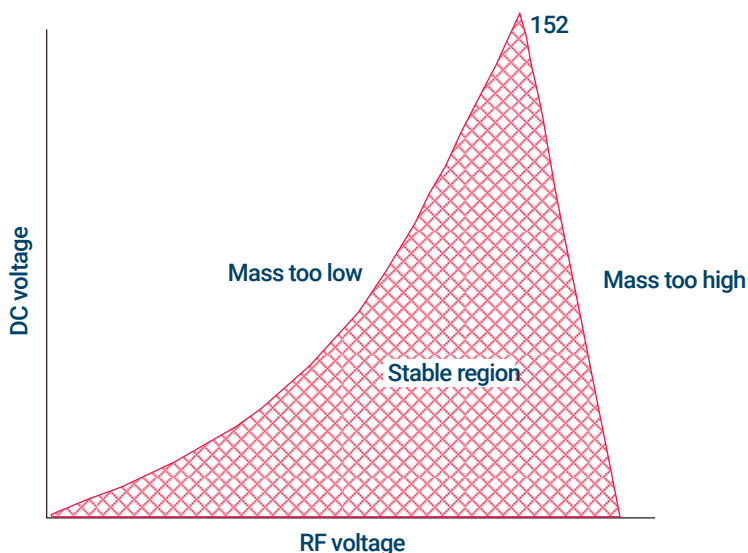

Figure 9. Mathieu Stability Diagram for a single ion
**Figure 9** shows a plot of increasing opposite polarity DC voltage and 180 degree out of phase RF voltage applied to the adjacent hyperbolic surfaces of a quadrupole mass filter. This plot is known as a Mathieu Stability Diagram. The shaded area represents a stable region that allows the 152  $m/z$  ion to pass through the quadrupole and be counted by the detector. The region to the left of this stable region filters out all ions with a lower  $m/z$ , the region to the right filters out all ions with a higher  $m/z$  value. The stable region also includes overlapping stable regions for other ions allowing them to also pass through the quadrupole. To obtain unit resolution on the 152  $m/z$  ion the quadrupole must be adjusted so that only ions with an  $m/z$  of 151.5 to 152.5 can reach the detector.